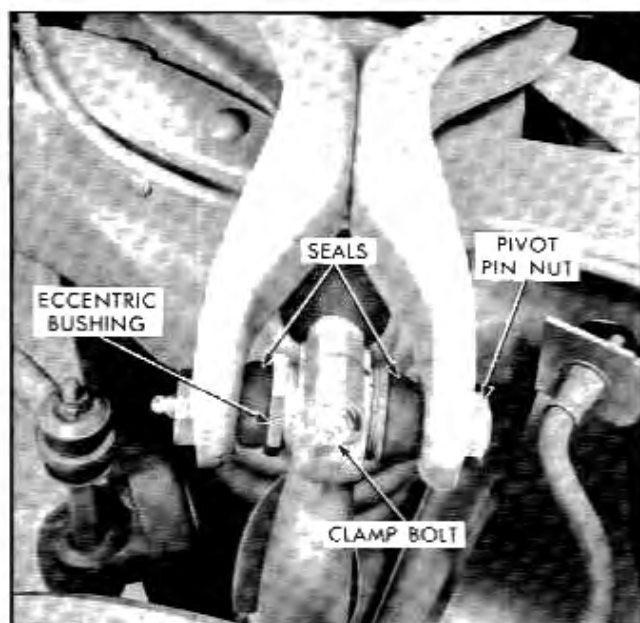

Fig. 3-16 Upper Pivot Pin Assembly
2. Remove nut from front end of right hand upper pivot pin (Fig. 3-16) or from rear of left hand pin.
5. Stretch rubber seals over end of control arm into position over threads of pin as shown in Fig. 3-16.